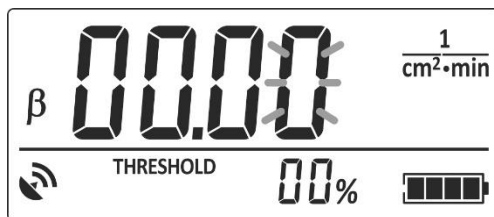

Figure 2.20 – LCD of the dosimeter
2.3.6.6.3.2 If you keep holding THRESHOLD for more than 4 s, the value of the alarm threshold level is returned to zero, and its low-order digit starts blinking (Figure 2.20). Then release THRESHOLD.